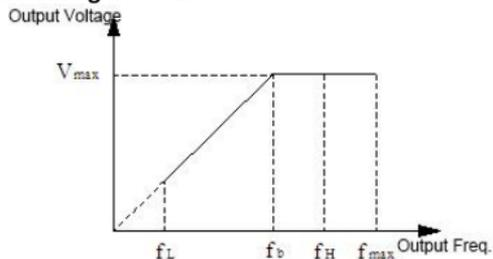

Figure F0-1 Voltage and Frequency
frequency for output, and the reference of acc./dec. time setting, as  $f_{max}$  showed in the following figure; basic running frequency is the minimum frequency when output highest voltage, usually the rated frequency of motor, as  $f_b$  showed in the following figure; the maximum output voltage  $V_{max}$  is the output voltage when output basic running frequency, usually rated voltage of the motor, as  $V_{max}$  showed in the following figure;  $f_H$ ,  $f_L$  are defined as upper limit frequency and lower limit frequency separately, as showed in figure F0-1:
- The maximum output frequency, upper limit frequency and lower limit frequency have relations as showed in figure F0-1, please notice the numerical value order when setting.